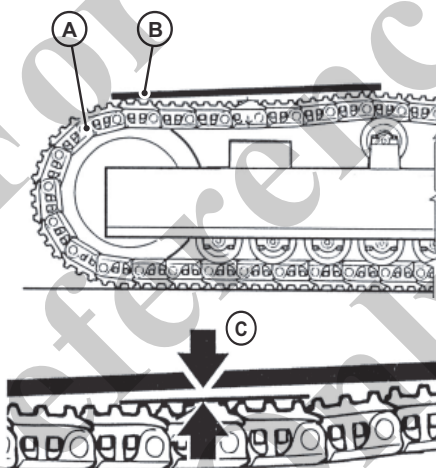

Fig. 25 Determining crawler track tension
2	Place a straight edge (B) in Fig. 25 on crawler track A.
3	Measure the distance (C) in Fig. 25 (sag) between track roller and chain link.